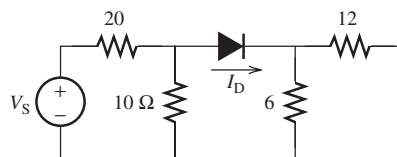

FIGURE P8.13 Diode circuit.
- 8.13 (H) Find I_D in Figure P8.13 when